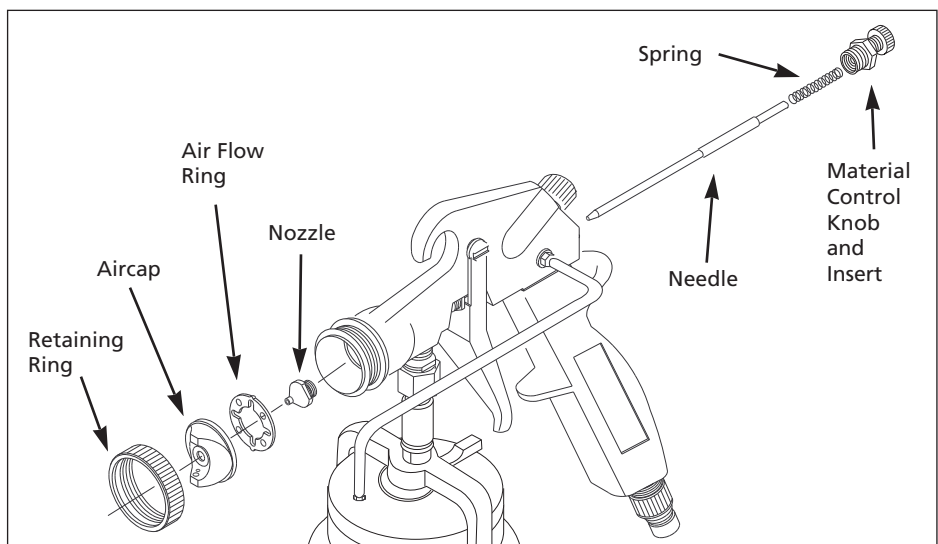

Figure 2 - Needle/Nozzle Installation
1. Remove retaining ring, air cap, air flow ring, nozzle, material control knob, spring, and needle assembly (Fig. 2).